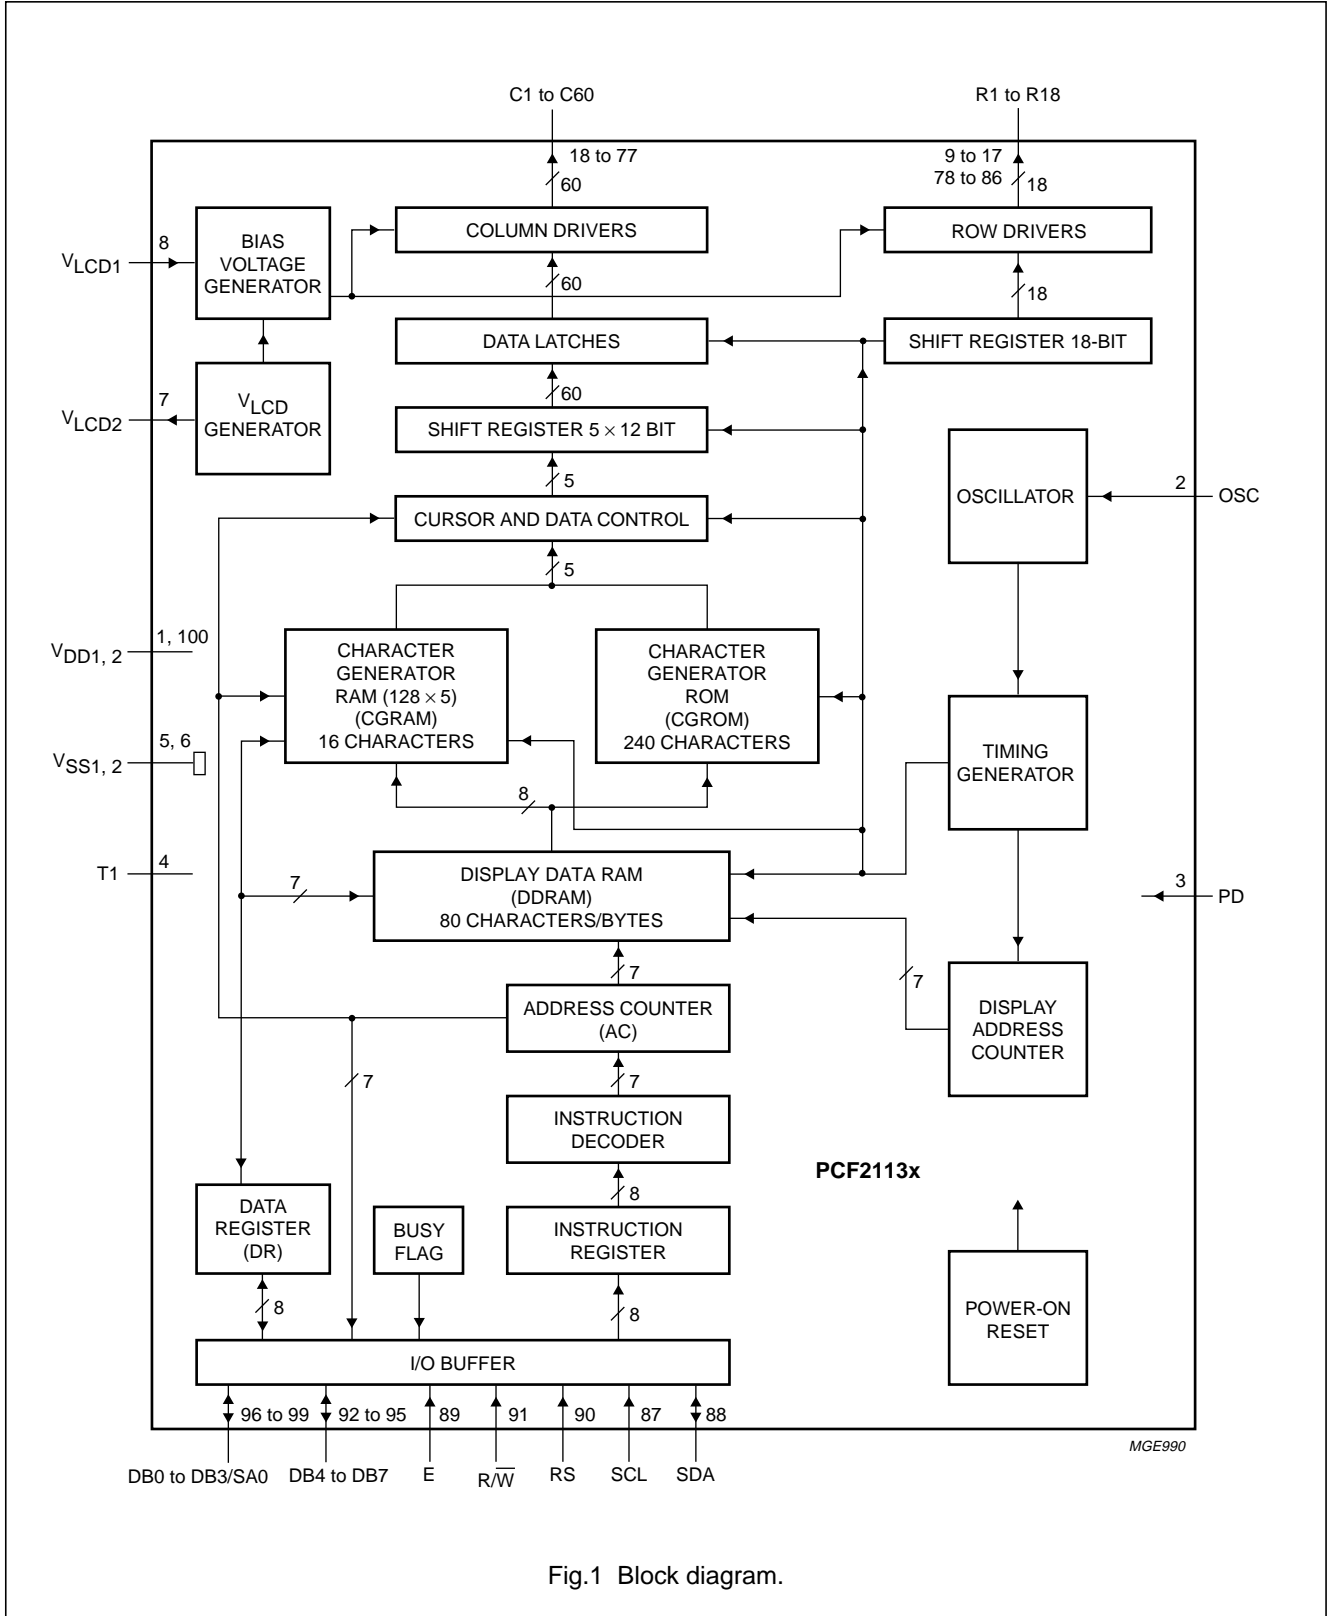

Fig.1 Block diagram.
**8 FUNCTIONAL DESCRIPTION** (see Fig.1)**8.1 LCD supply voltage generator**